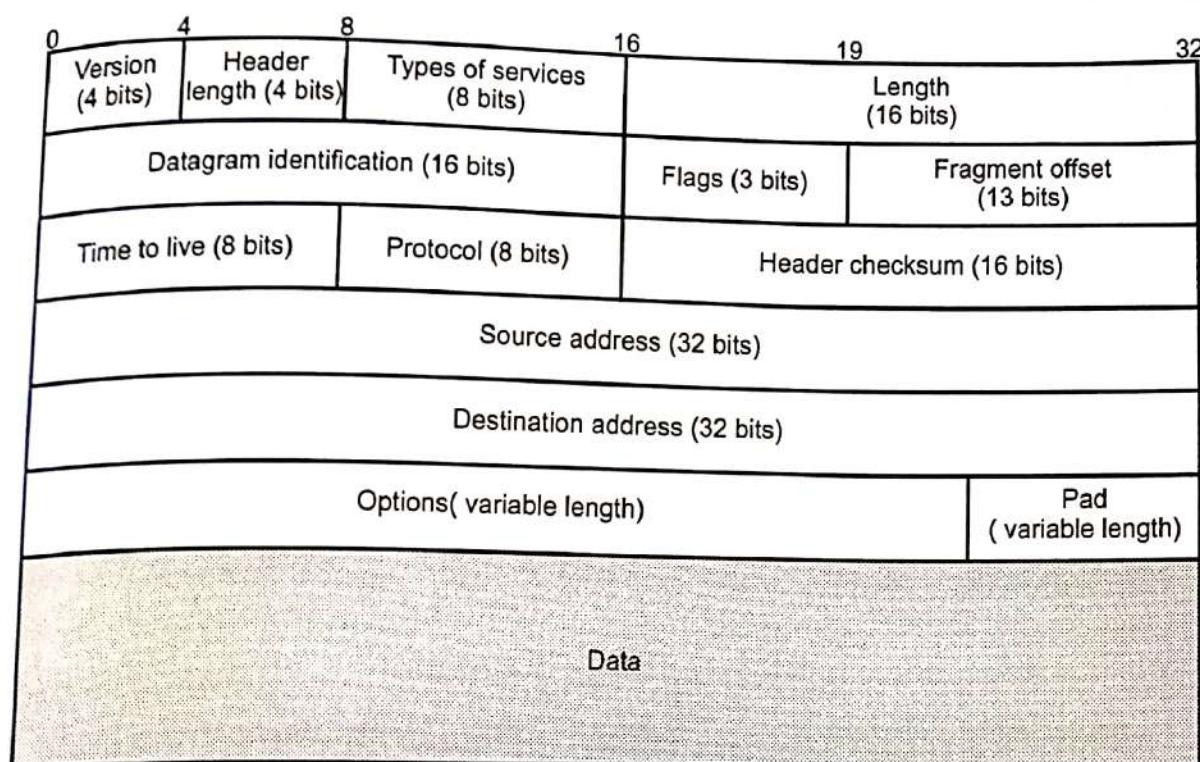

Fig. 3.3.1 : IPv4 header format
- The IP datagram consists of a header followed by a number of bytes of data. Fig 3.3.1 shows header format of IPv4. All IPv4 packets use the 20 bytes header. (See Fig. 3.3.1 on next page.)